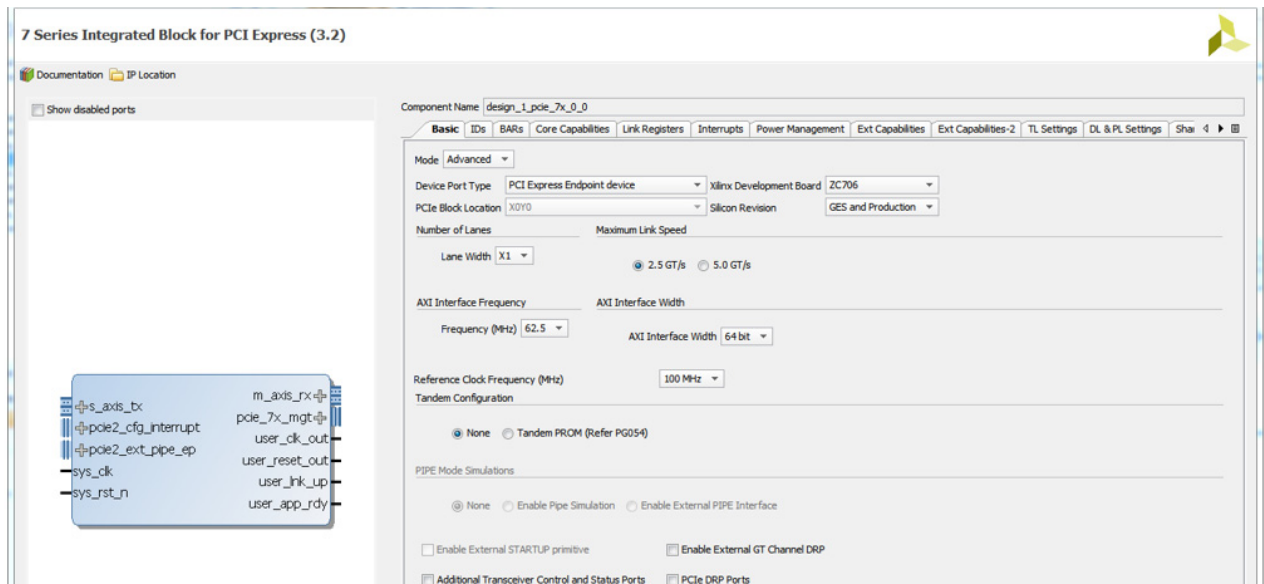

Figure 7: 7 Series Integrated Block for PCIe - Basic Settings
8. Double click the core to display its settings (see Figure 7).